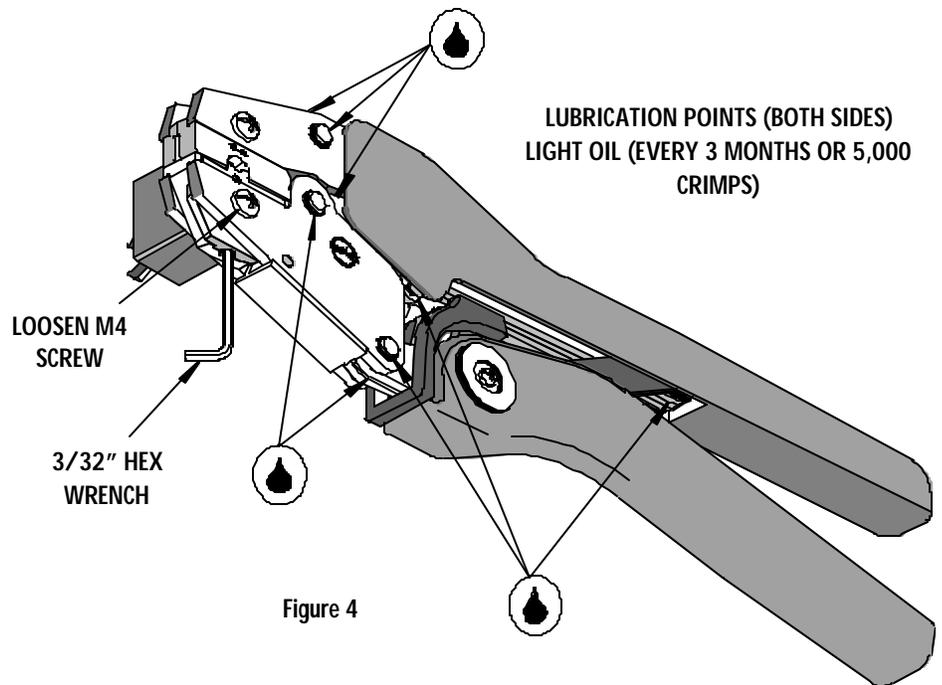

Figure 4
4. If the insulation part of the crimp needs to be adjusted, first loosen the M4 screw on the bottom tool jaw, then insert a 3/32 hex wrench (supplied) into the bottom of the lower die (See Figure 4). A clockwise (CW) rotation decreases insulation crimp while a counter-clockwise (CCW) rotation increases insulation crimp. After adjusting retighten the M4 screw.
3. Make certain all pins, pivot points and bearing surfaces are protected with a thin coat of high quality machine oil. Do not oil excessively. The 64001-2300 (RHT-8764) was engineered for durability, but like any fine piece of equipment it needs cleaning and lubrication for a maximum service life of trouble-free crimping. A light oil, such as 30 weight automotive oil used at the oil points shown in Figure 4, every 5,000 crimps or 3 months will significantly enhance the tool life and ensure a stable calibration.